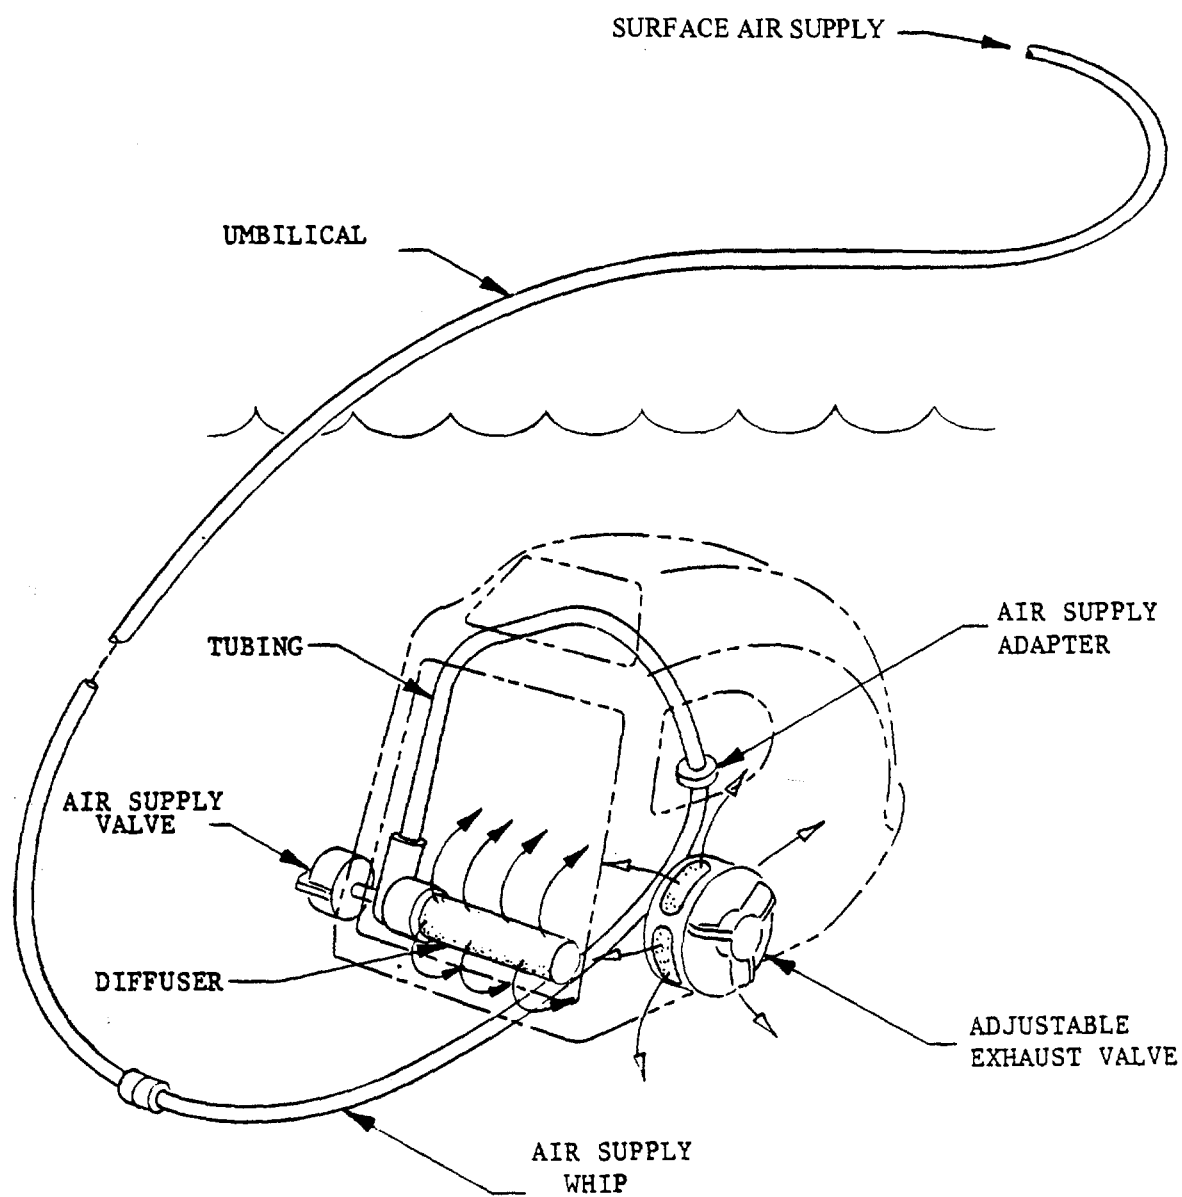

Figure 1-3. MK12 SSDS Open Circuit Flow Pattern.
a. System Flow. Open Circuit (figure 1-3). Diver air is delivered through the umbilical. The air hose is terminated at the left side of the diver's waist and is connected to the air supply whip which leads under the left arm to the air adapter at the right rear corner on the helmet. In the air supply adapter, the air passes through a filter screen and a cartridge-type one way valve which prevents depressurization of the helmet through the hose should supply pressure be lost. From the adapter, the air flows through the tubing assembly to the air supply valve mounted in the right side of the helmet. The air supply valve varies the flow linearly through its range and has a control knob indexed by an extended vane to indicate position. From the supply valve, the air flows to the supply diffuser located across the lower edge of the front viewport. The diffuser serves the dual function of evenly discharging the air to the helmet and helping to suppress air noise. Should the diffuser become clogged or frozen, a relief valve mounted in the elbow of the diffuser adapter will open at a nominal 20 psi to prevent rupturing the diffuser. The helmet air flow is discharged and diffused through the exhaust valve in the lower left side of the helmet. The exhaust valve can be assembled in two configurations. In the adjustable configuration, the diver can vary the helmet P from 0.3 psig to 2.0 psig overbottom pressure. Operating the exhaust valve together with the supply valve allows the diver to control his buoyancy while maintaining adequate ventilation. A chin button is provided which permits the diver to open or shut the adjustable exhaust valve, manually overriding the valve setting. The ambient exhaust valve configuration is installed when the helmet is used with a neckdam. In the ambient configuration, the P across the exhaust valve is fixed at 0.125 psi, which is low enough to prevent neck squeeze at the neckdam.